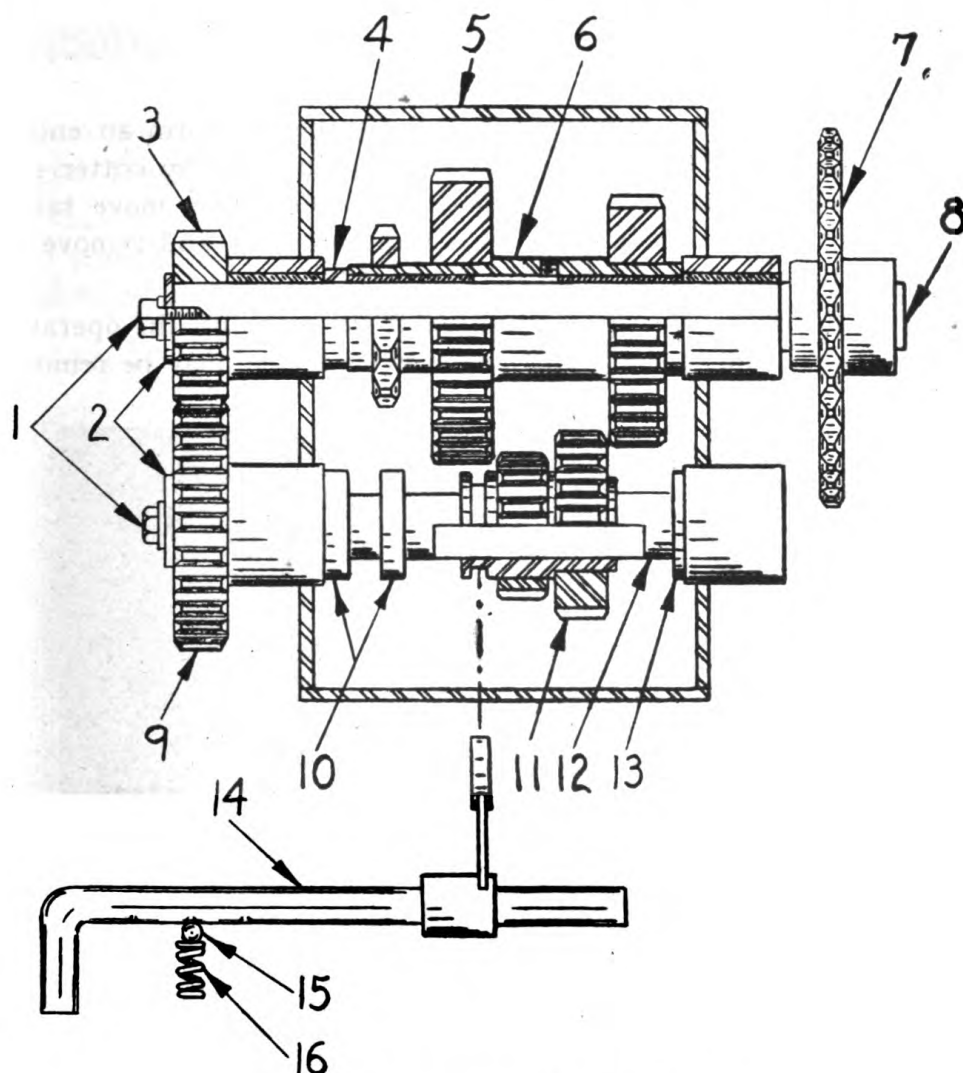

Figure 125. Cross section of gear box.
- (a) Uncouple the chains (6) and (7), which run to and from the gear box. The bolts which hold the gear box in place may be easily removed, along with the guards over the change gears and the sprocket, and the entire unit taken off the machine.
- (b) To dismantle, change gears (3) and (9), Figure 125, are taken off. These gears are held in place on the ends of the shafts by a cap screw (1) and washer (2). Each gear is double keyed. Loosen shifter yoke and slide out shifter shaft (14). This is held for positions by ball (15) and spring (16). Remove sprocket (7) on side of box opposite the change gears.